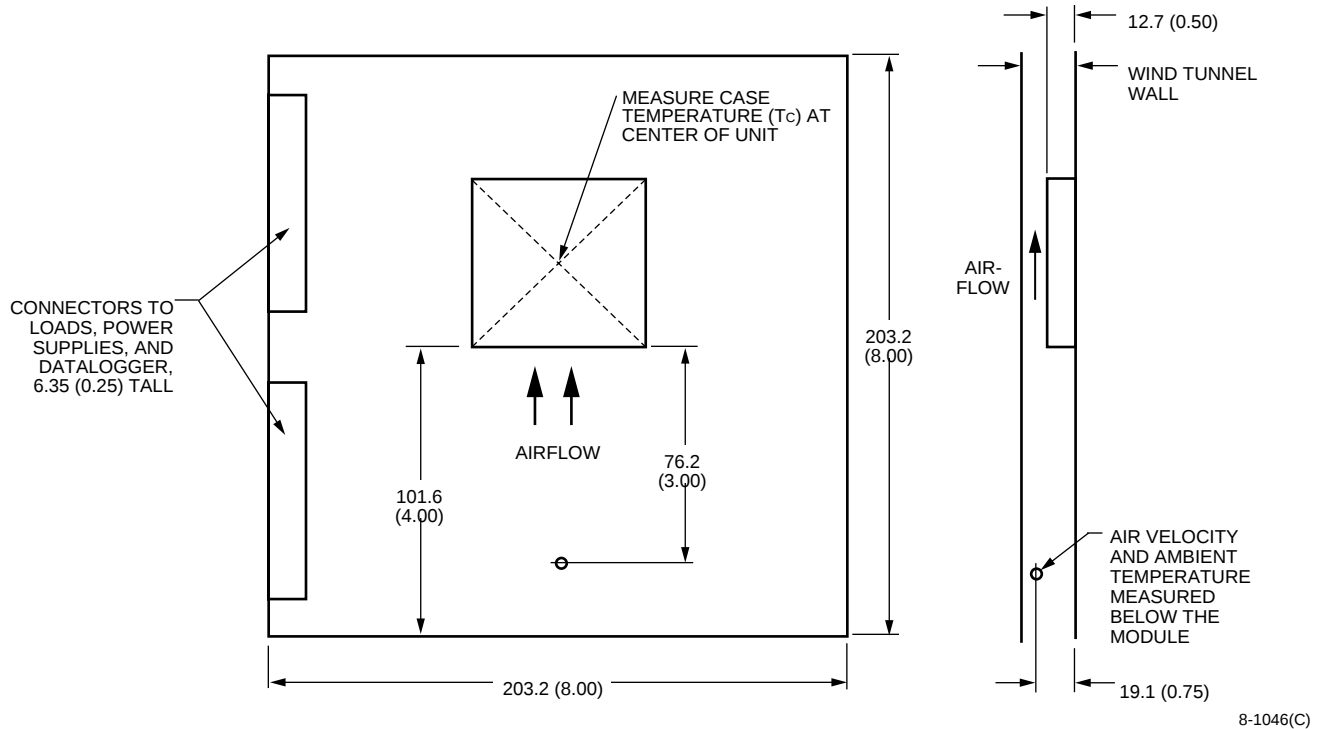
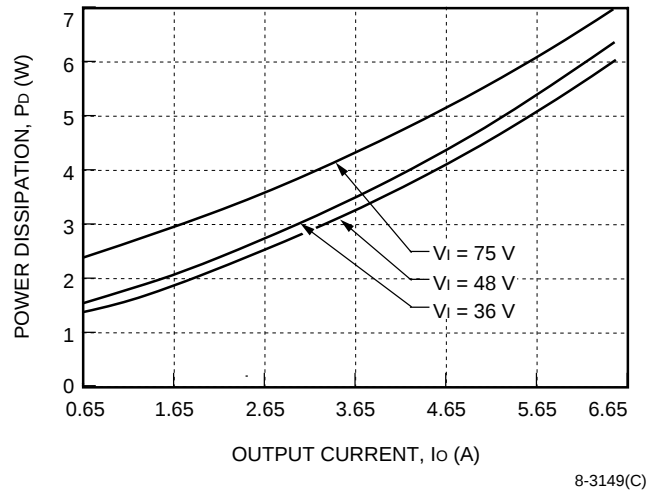
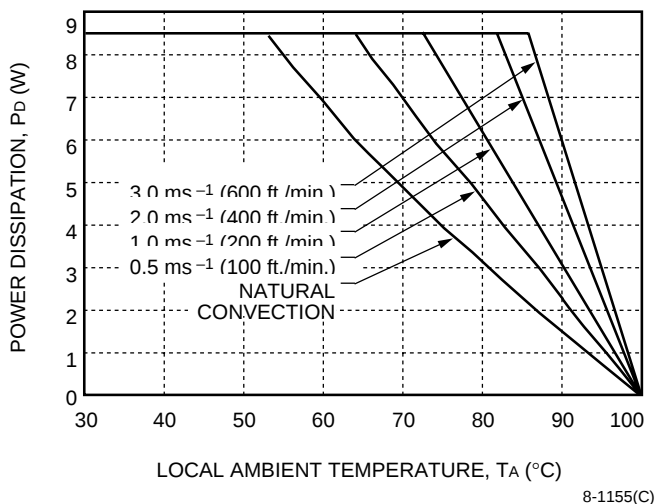

Figure 26. Thermal Test Setup
Figure 27. CW030D Power Dissipation vs. Output Current
Figure 32. CW030A, B, C, D, F Forced Convection Power Derating with No Heat Sink; Either Orientation
The thermal data presented is based on measurements taken in a wind tunnel. The test setup shown in Figure 26 was used to collect data for Figures 32 and 33.
The graphs in Figures 27 through 31 provide general guidelines for use. Actual performance can vary depending on the particular application environment. The maximum case temperature of 100 °C must not be exceeded.
The CW030-Series Power Modules are constructed with a specially designed, heat spreading enclosure. As a result, full load operation in natural convection at 50 °C can be achieved without the use of an external heat sink (see Figure 32).
Higher ambient temperatures can be sustained by increasing the airflow or by adding a heat sink. As stated, this data is based on a maximum case temperature of 100 °C and measured in the test configuration of Figure 26.
To determine the necessary airflow, determine the power dissipated by the unit for the particular application. Figures 27 through 31 show typical power dissipation for these power modules over a range of output currents. With the known power dissipation and a given local ambient temperature, the appropriate airflow can be chosen from the derating curves in Figure 32. For example, if the unit dissipates 6.2 W, the minimum airflow in a 80 °C environment is 1.0 ms^{-1} (200 ft./min).
- $T_{C, \max}$ = case temperature (See Figure 26.)
- T_A = inlet ambient temperature (See Figure 26.)